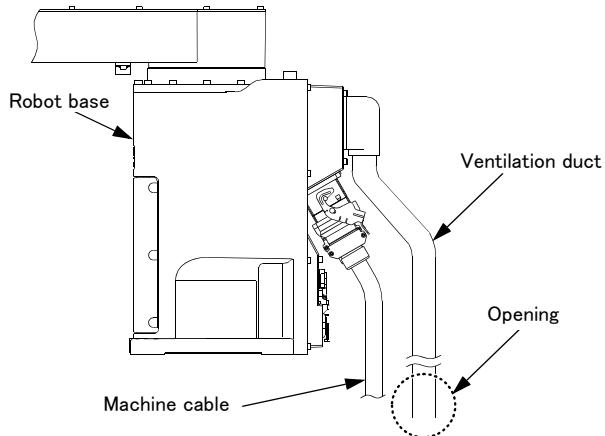

Fig.2-10 : Installation of Ventilation Duct
1) The ventilation duct is attached to the robot arm rear (refer to Fig. 2-10). As the Z axis moves up and down the volume of the bellows varies, and air is sucked in and released out of the robot's ventilation duct opening. Be sure to locate the ventilation duct's opening in a position that will not affect the robot's cleanliness.